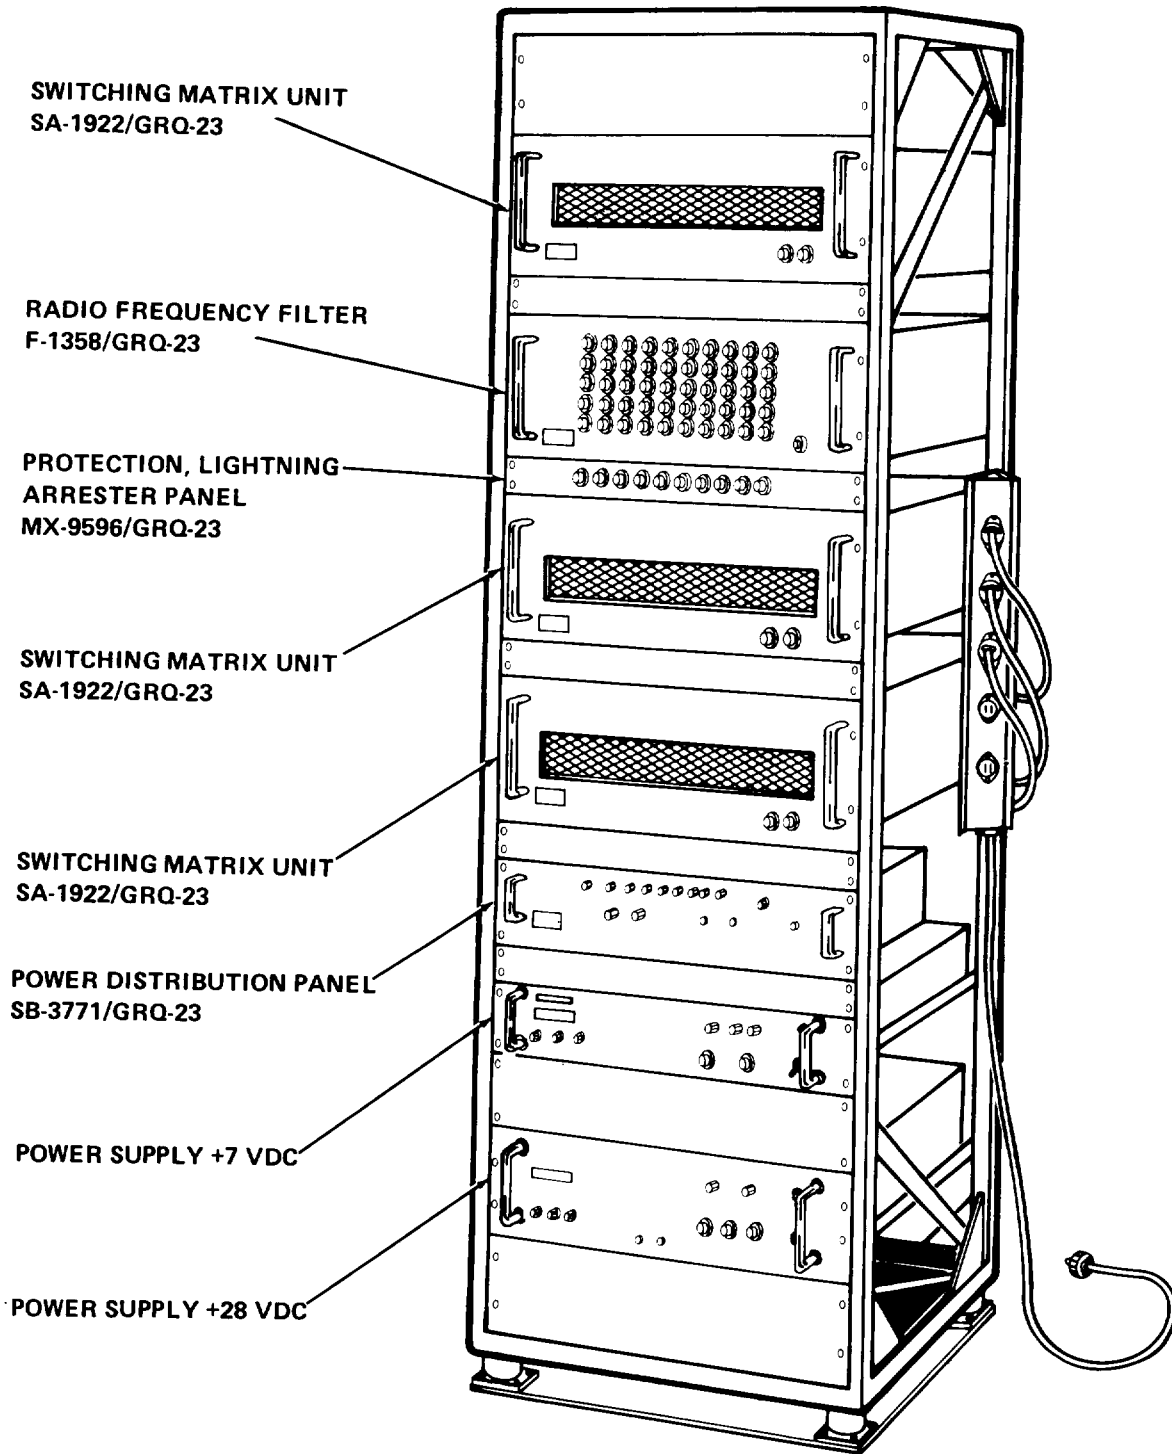

Figure 1-5. Radio Frequency Switching Set AN/GRQ-23
(4) *Position No. 4.* Position No. 4 contains Radio Frequency Switching Set AN/GRQ-23 (figure 1-5). For a complete description of the AN/GRQ-23, the antenna distribution system of the AN/TSQ-78, refer to TM 325895-753-14.